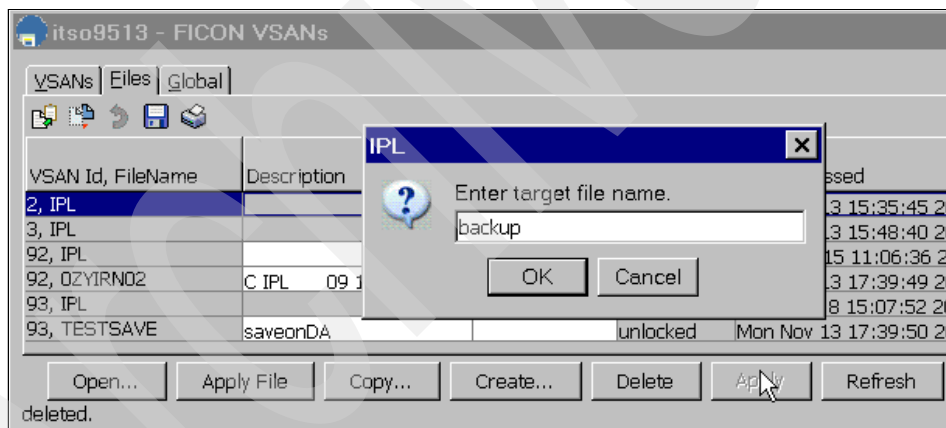

Figure 76 Creating a copy of the IPL configuration file
- To make a copy of this file for backup purposes, select the IPL file you want to copy, select **Copy**, enter the name of the new file, and click **OK** (Figure 76).